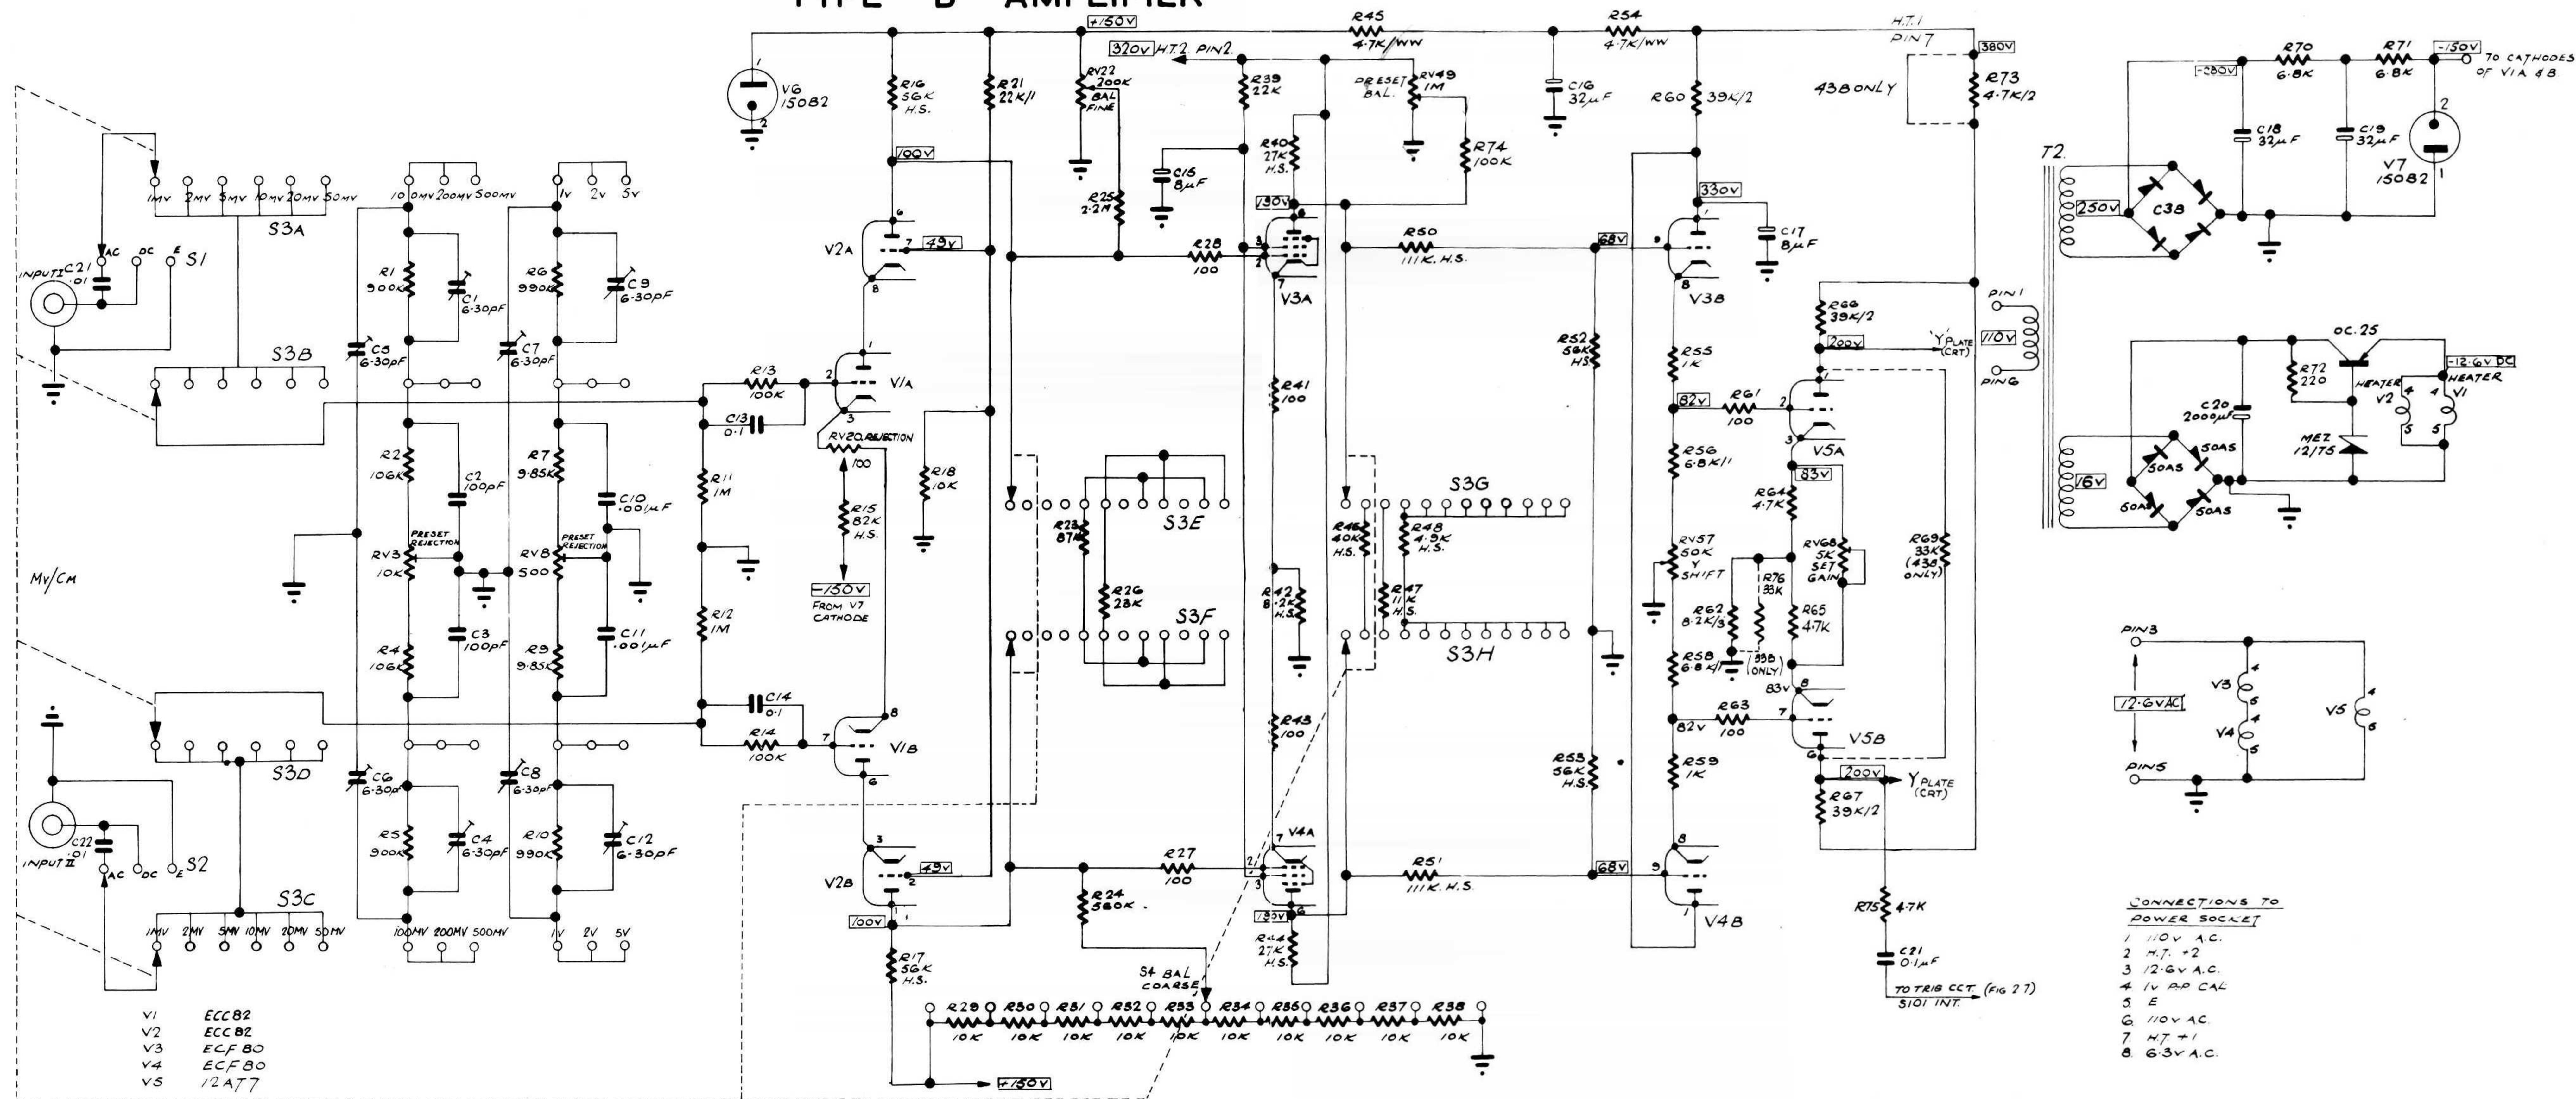

FIG 3-3
3. CIRCUIT DESCRIPTION (Fig. 3.3)